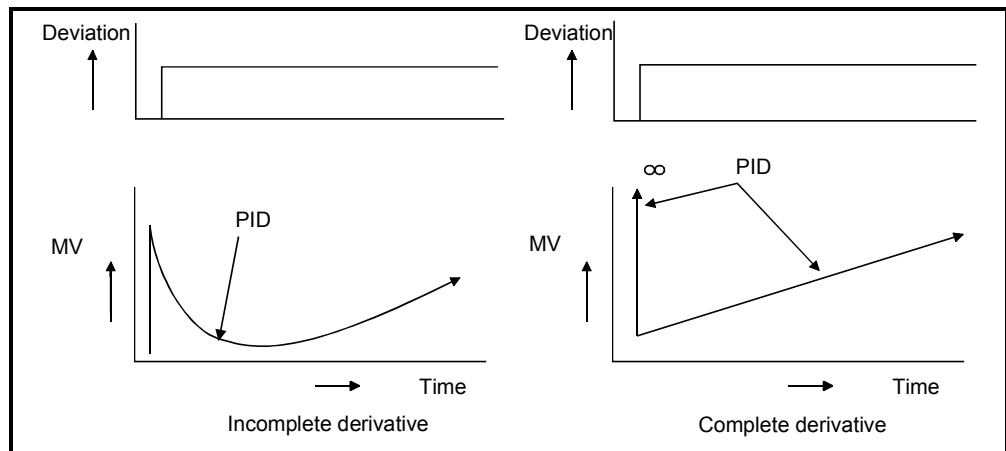

Fig. 4.5 PID Operation with Constant Deviation
(1) During PID operation, the system is controlled by the MV (manipulated value) calculated in the (P + I + D) operation.
(2) PID operation in step response with a constant E (deviation) is illustrated in Fig. 4.5.